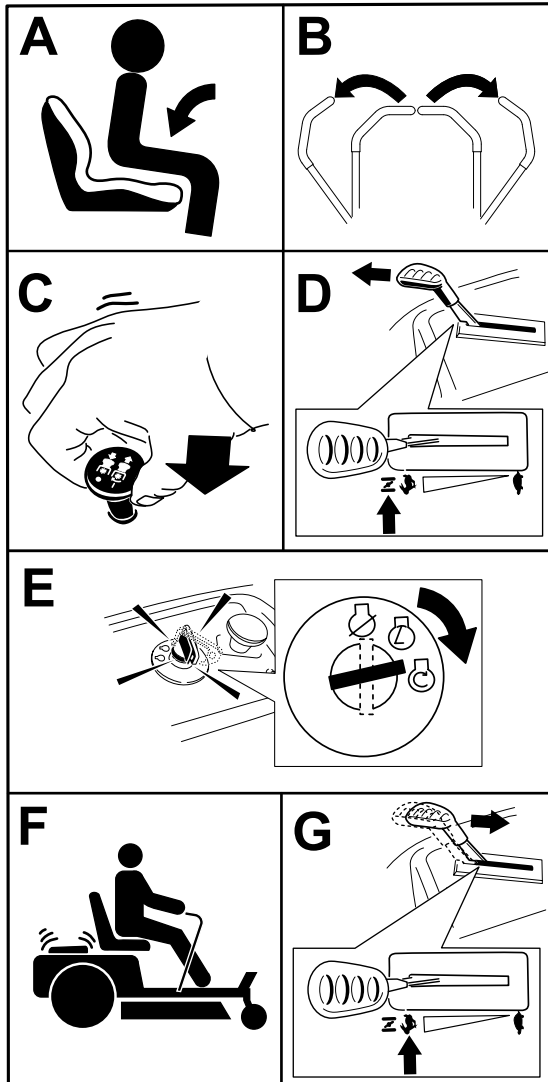

Figure 18
**Note:** It may be necessary to hold the lever against the stop, in the choke position, while trying to start the engine (Figure 18).
1. Disengage the blades by moving the blade-control switch to the OFF position (Figure 18).